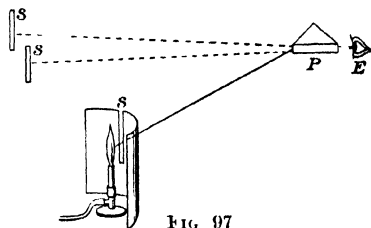

FIG. 97
**III Bright-line spectra.** Let one student hold successively in a Bunsen flame, arranged as in Fig 97, three platinum wires or bits of asbestos, which have been dipped, one in a solution of common salt (sodium chloride), another in lithium chloride, and another in calcium chloride, taking care that the wire itself is kept below the lower edge of the slit  $s$ . Let other students look through the prisms at distances of about 10 ft, in the manner indicated in the figure, and record the character of the spectra to which the incandescent vapors of these substances give rise.